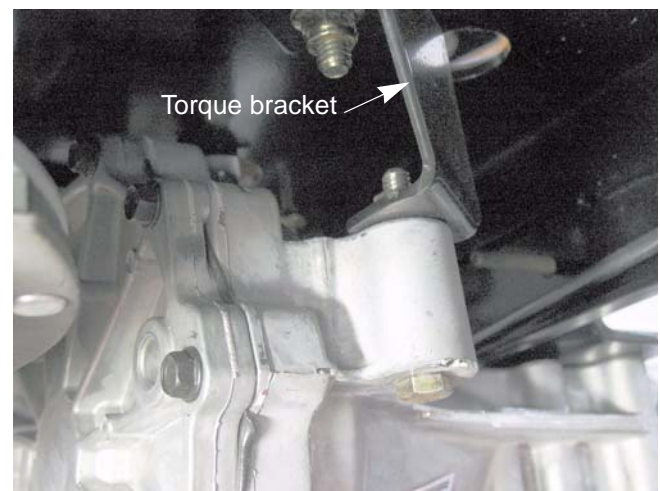

Figure 5.20
13. Remove the bolt holding the rear of the transmission to the torque bracket. See Figure 5.20.